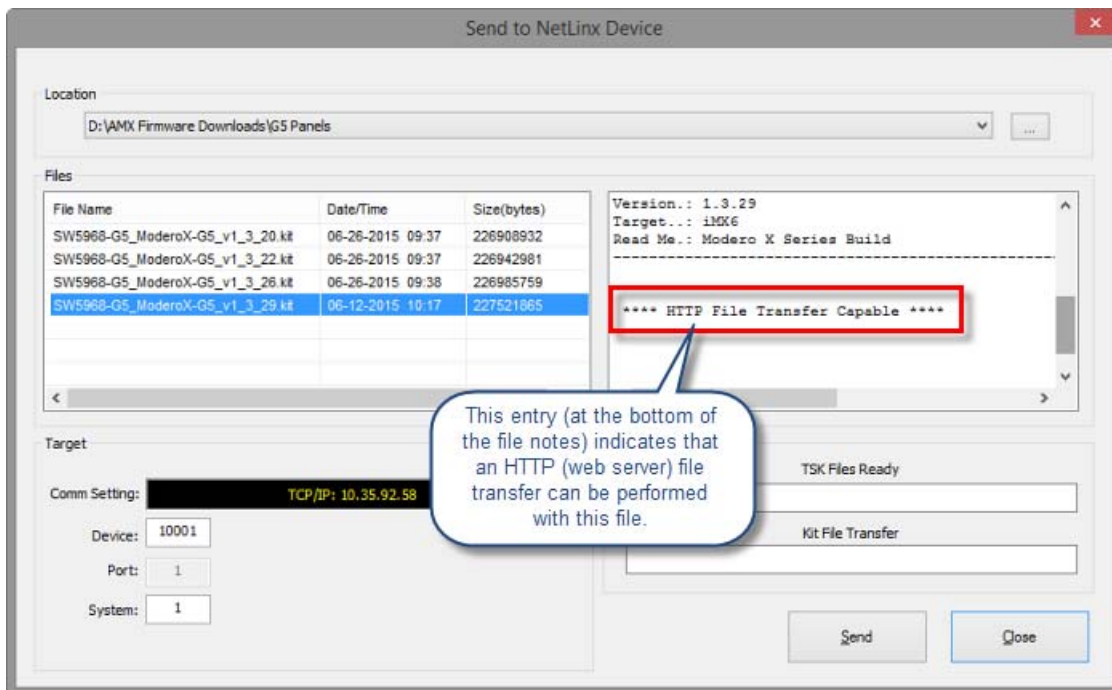

FIG. 159 NetLinX Studio - Send to NetLinX Device dialog
Look for "**** HTTP File Transfer Capable ****" at the end of the file (see FIG. 159 on page 180).
6. In the *Files* window, click to select the G5 *.kit file to transfer (FIG. 159):